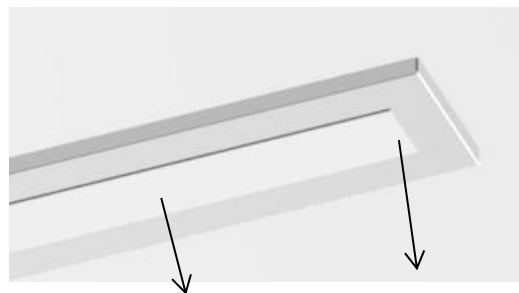

Fig. 7
3. Remove the lower diffuser, hooked under pressure, without using tools, simply pulling it out by pulling it downwards (figure 7).